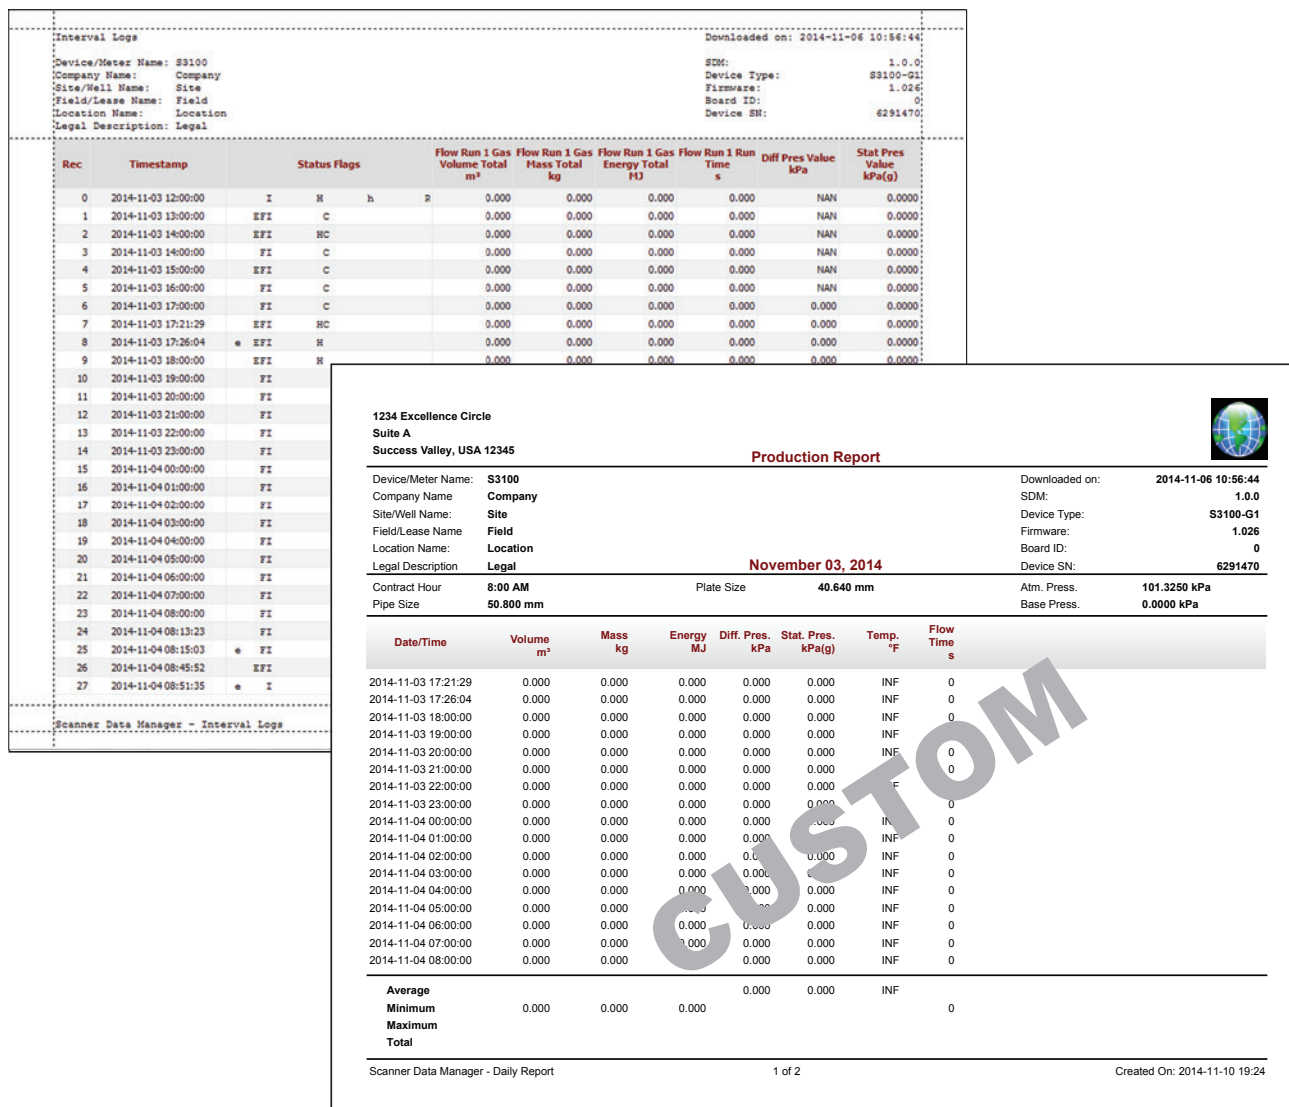

Figure 4.1—Comparison of standard report vs. custom report
- A standard report with a pre-defined layout that matches the main screen layout (see Standard Reports, page 42 and Figure 4.1)
- A custom report that allows the user to specify content and personalize the presentation with a company name, logo, and contact information (see Custom Reports, page 47 and Figure 4.1).